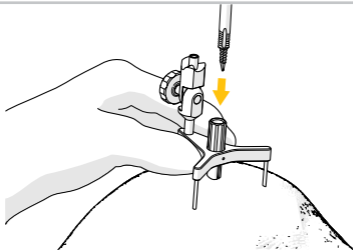

Figure 3
4.1.2. Fixing the base on the patient's head (Figure 3)